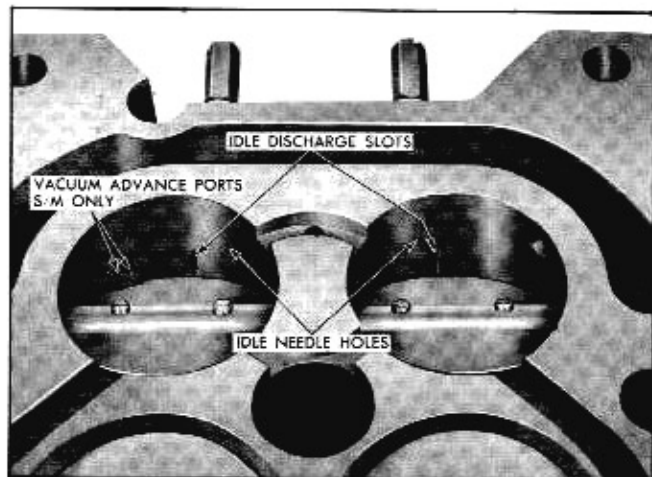

Fig. 6B-80 Throttle Body
9. If required, pump inlet screen (Fig. 6B-73) may be removed for cleaning by prying up retaining ring with pointed tool.